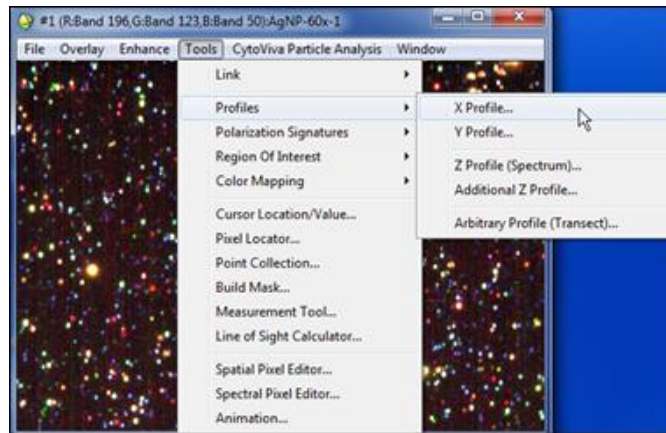

Figure 2.8a. The profile list is under tools in the image tool bar
- Click on Tools, then highlight Profiles (Figure 2.8a)